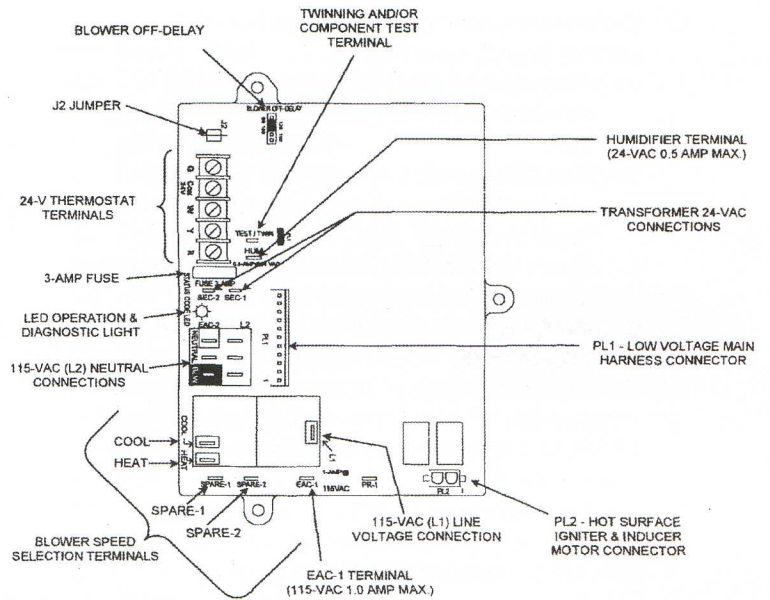

Figure 2 – New Style Furnace Control Board
2. A COOLING OFF DELAY DEFEAT JUMPER "J2" is provided. It is located in the upper left corner of control board (see Fig. 2). When cut, this permanently reduces the 90 second blower-off delay in the cooling mode, to 5 seconds.
3. All 115-volt neutrals are grouped together in one location of board (see Fig. 2)
4. Humidifier connection is removed from thermostat terminal block. It is now a 1/4 inch spade terminal, next to the thermostat terminal block (see Fig. 2)
- a. The 11-pin connector connects to PL1 on the furnace control board, (see Fig. 2 & 3).
- b. The 2-pin connector which has 2 black wires connects to PL2 on the furnace control board, (see Fig. 2 & 3).
- c. The 2 white wires connect to the 115-volt Neutral spade connections, located in front of PL1 on the new furnace control board (see Fig. 2 & 3).
5. Connect the transformer to the new furnace control board, (see Fig. 2).
6. Connect black wire from furnace auxiliary junction box to L1 on the new furnace control board. L1 is located on the blower enable relay. (see Fig. 2).
7. Connect white wire from furnace auxiliary junction box to one of the 115-volt Neutral spade connections located in front of PL1. (see Fig. 2).
8. Connect the blower motor leads to the new furnace control board, (see Fig. 2).
11. Set blower off delay. **Blower Off Delay Jumper Select** is located on the top-center portion of board. (See Fig. 2) It is factory set at 120 seconds.